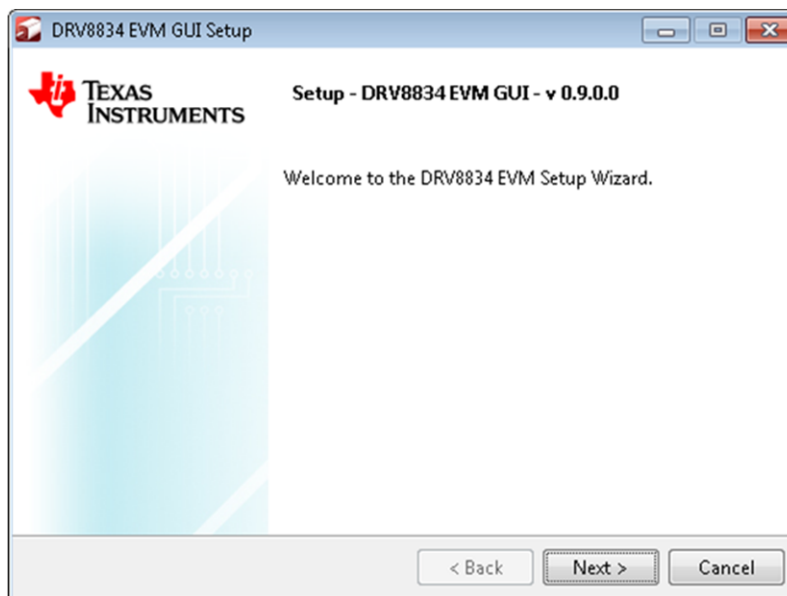

Figure 3. Installation Initialization
- The screen shown in Figure 3 appears, indicating installer initialization. Click the **Next** button.